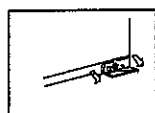

Fig.1
- 1) Push out the outer cover (Fig. 1);